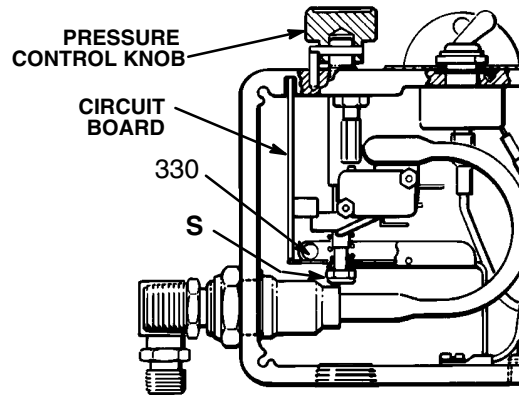

Fig 28-1
Refer to Fig 28-1 and 28-2.
2. Turn the pressure control knob to the minimum setting to release spring tension on the board. Check to be sure only three or four threads of the pressure control knob shaft are exposed below the pressure adjustment nut (S). Loosen the nut, if necessary. Refer to Fig 28-1.